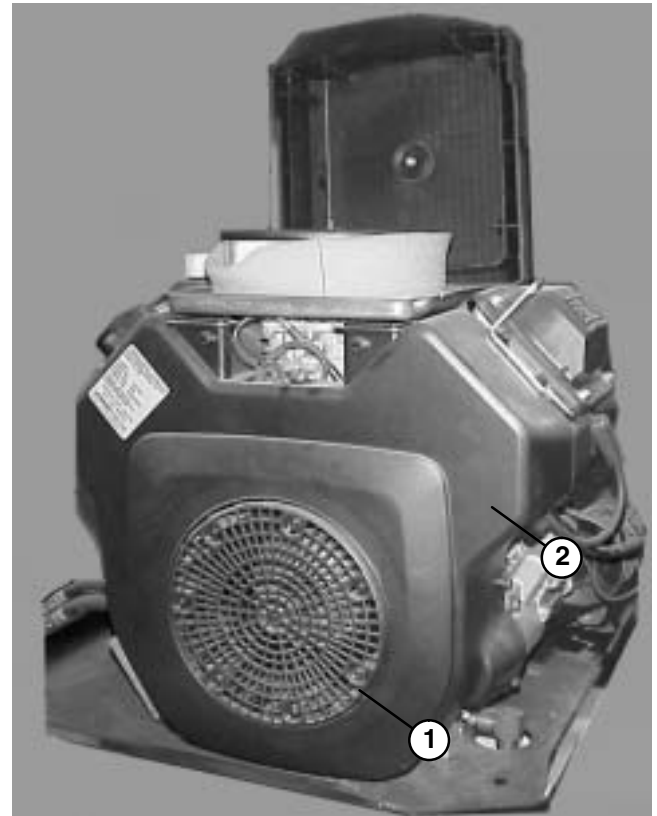

Figure 4
3. Clean grass screen and blower housing of dirt and debris (Fig. 4). Remove screen and housing if necessary.